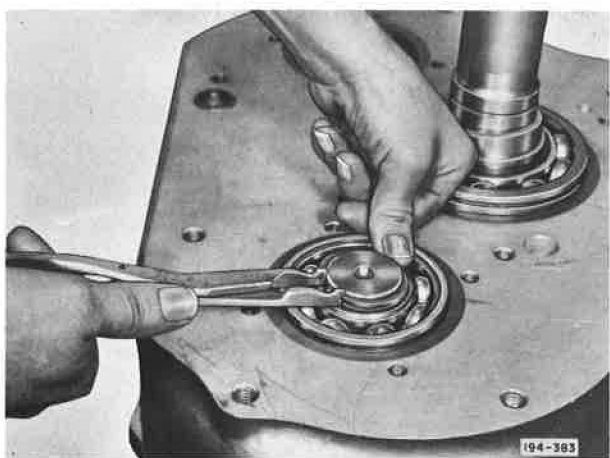
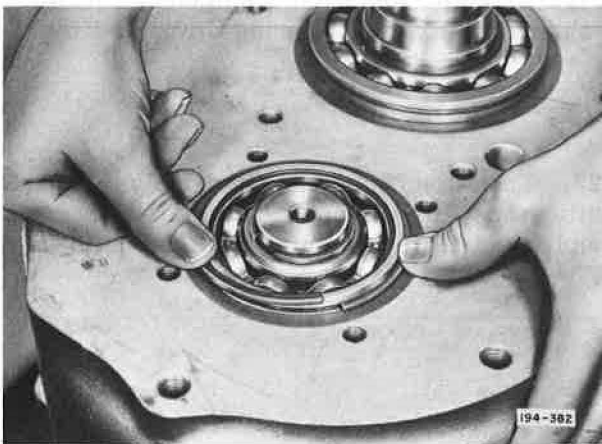

Figure 5-169. Installing Compound Counter-shaft Front Bearing Retaining Snap Ring
Figure 5-170. Installing Compound Counter-shafts Front Ball Bearing Positioning Snap Ring
15. (TRDXL1070) Install front ball bearing retaining snap ring in groove provided on front end of each compound countershaft. See Figure 5-169. Install snap ring in groove provided in each compound countershaft front ball bearing. See Figure 5-170.